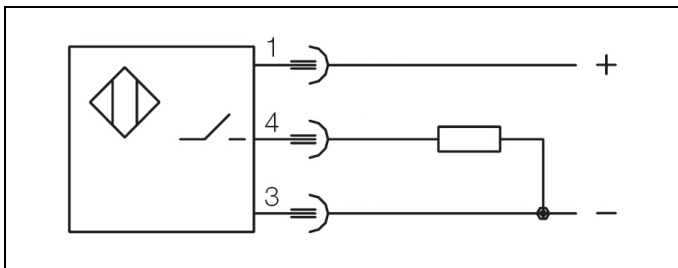

Fig. 8: circuit diagram for pnp (+) magnetic sensor
- Proceed with S2 correspondingly so that there will be a signal course as per figure 8.